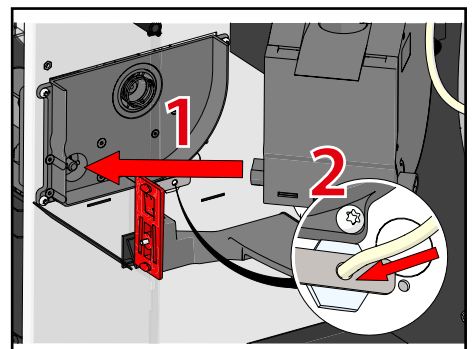

Figure 42.
10. Press the hose firmly into the connector below (Figure 42).
20. Replace the (dried) brewer in the machine and press it firmly (see Figure 42). Click the spout arm back onto the cabinet.